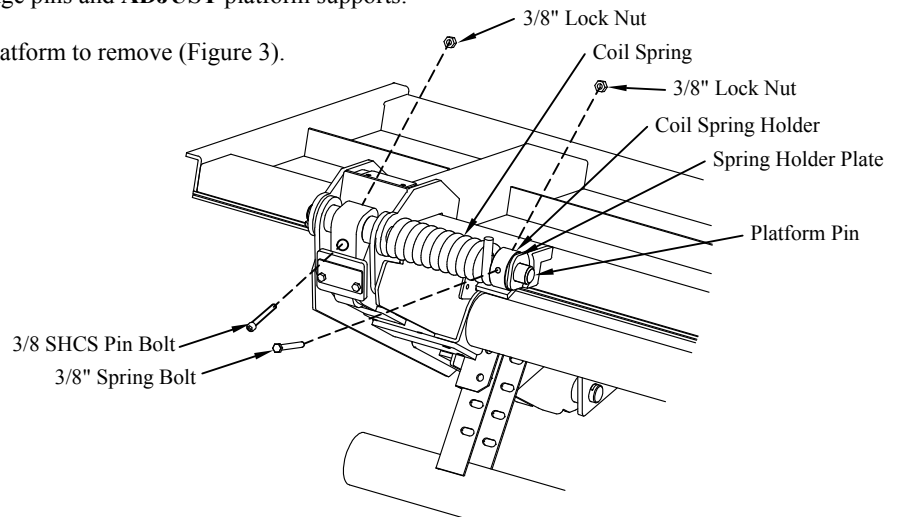

Figure 2: Platform Hardware (other side similar).
2. **REMOVE** the 3/8" spring bolts (Figure 2).
3. **REMOVE** the spring holder plates, coil spring holders, and coil springs (Figure 2).
4. **ROTATE** the platform pin slightly (1-2°) to **REMOVE** the 3/8" SHCS pin bolts (Figure 2).